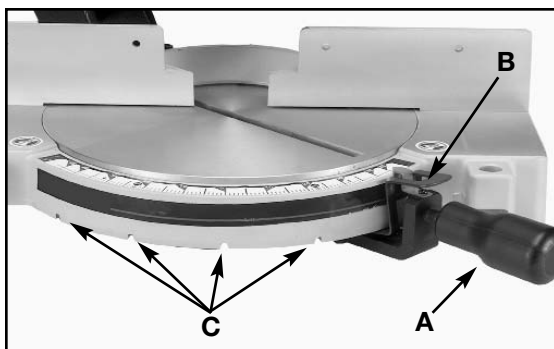

Fig. 12
Your miter saw will cut any angle from a straight 90 degree cut to 47 degrees, right and left. Loosen lock handle (A) Fig. 12 one or two turns, depress index lever (B) and move the control arm to the desired angle. TIGHTEN LOCK HANDLE (A).
The miter saw is equipped with positive stops at the 0, 22-1/2, and 45 degree, right and left positions. Loosen lock handle (A) Fig. 12, and move the control arm until the bottom of the index lever (B) engages into one of the positive stops, four of which are shown at (C). TIGHTEN LOCK HANDLE (A). To disengage the positive stop, depress index lever (B).
IMPORTANT: Always tighten the lock handle (A) Fig. 12 before cutting.